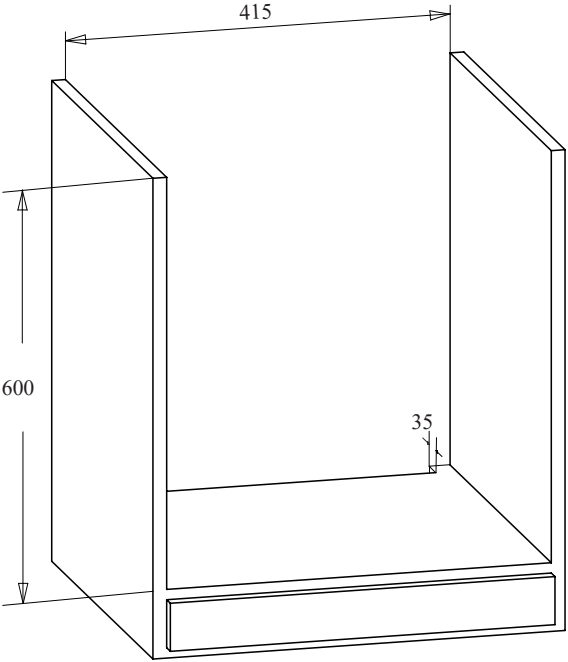

FIGURE 2
- Cabin must match the dimensions provided in figure 2.